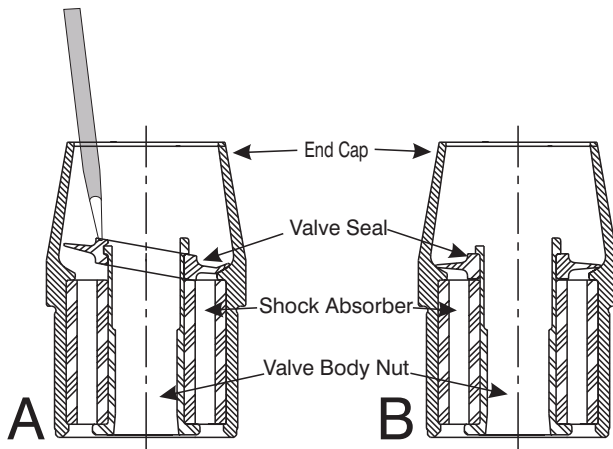

Figure 9-3. Press Valve Seal onto the Valve Body Nut .
9. Turn the End Cap (9) over in the arbor press so the threaded end is down as shown in Figure 9-3.
Valve Body Nut that protrudes from the Shock Absorber. See Figure 9-3-A.
11. Lubricate the Valve Seal (10) and fit it over the end of the Valve Body Nut that protrudes from the Shock Absorber. See Figure 9-3-A.
12. With a large, flat screw driver, press the Valve Seal into the End Cap. Moving progressively around the seal, press each quarter of the seal deeper into the End Cap until the seal seats between the Shock Absorber and the shoulder at end of the Valve Body Nut (7) as shown in Figure 9-3-B.